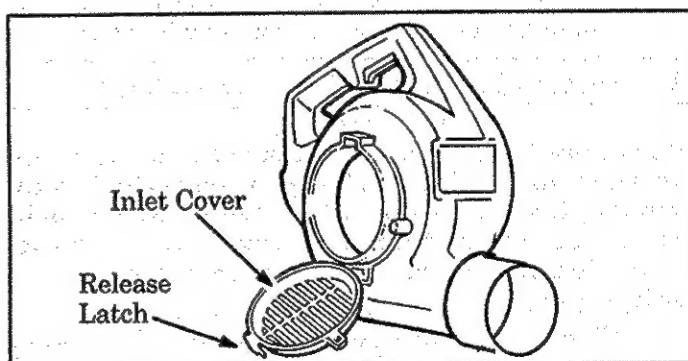

Figure 11
- b. Remove cover screw. Remove the vacuum tubes and/or open the inlet cover (Figure 11).